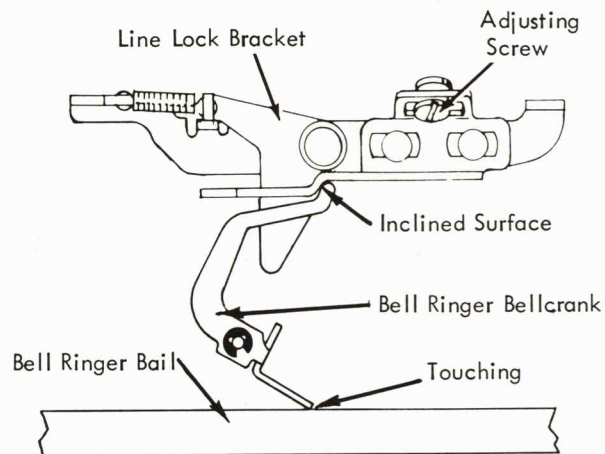

FIGURE 183. Line Lock Bracket
8. Line Lock Bracket Adjustable Plate (Fig. 183) - Position, with the carrier in the next to last space, to a point where the inclined surface just begins to deflect the bellringer bellcrank.